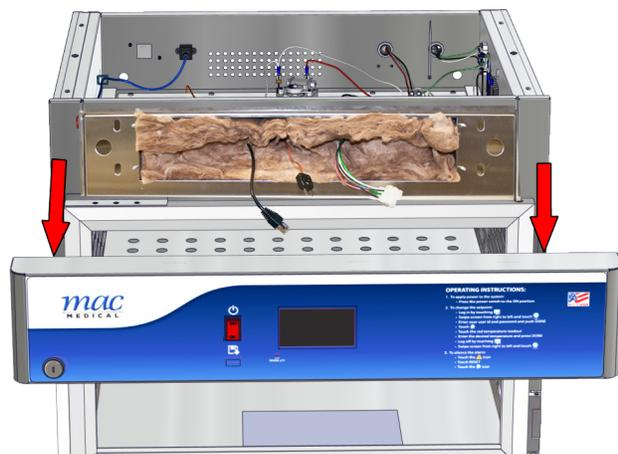

Fig. 7: Remove header from unit
- After disconnecting the harnesses and cables, remove the old TS header (Fig. 7).